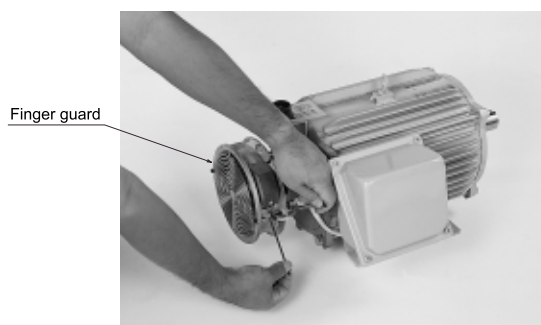

Fig. 11
- (4) Loosen the cooling fan fixing screw and remove the cooling fan. (Fig. 11)